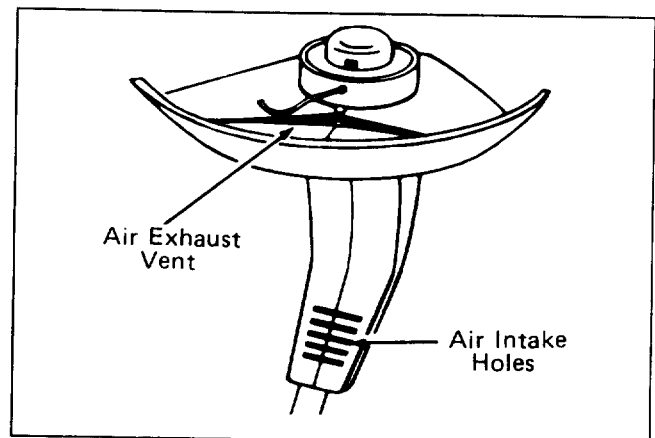

Figure 16
4. Air exhaust vent is located on underside of shield (Fig. 16). Scrape vent clean regularly.
5. Wipe debris from air intake holes in motor housing (Fig. 16).